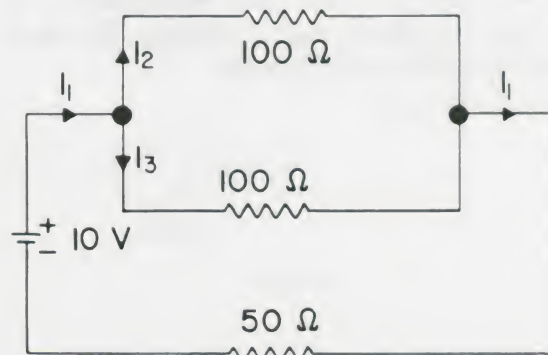

Figure 40B.
**Solution.** First, choose the currents at a junction, as shown in Figure 40B. Then, the current we wish to find is  $I_1$ , and  $I_1 = I_2 + I_3$ .